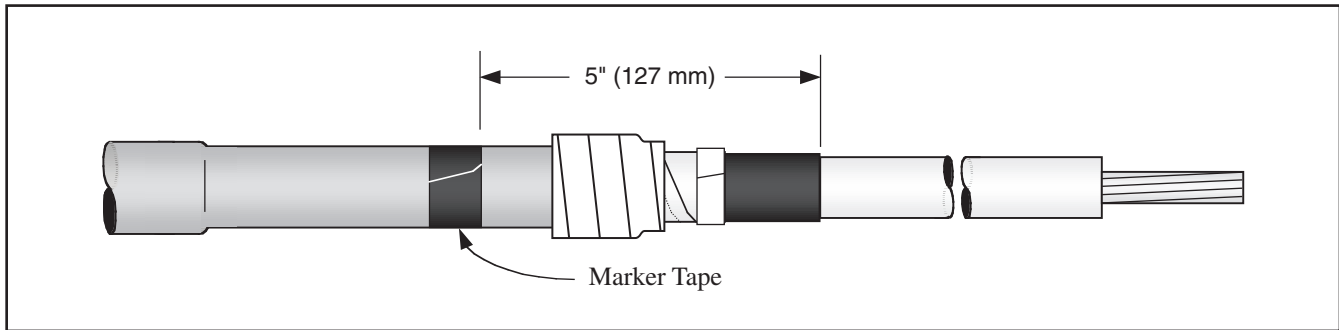

Figure 13
4.4 Place a termination installation marker tape 5" (127 mm) from the semi-con edge as shown (*Figure 13*).